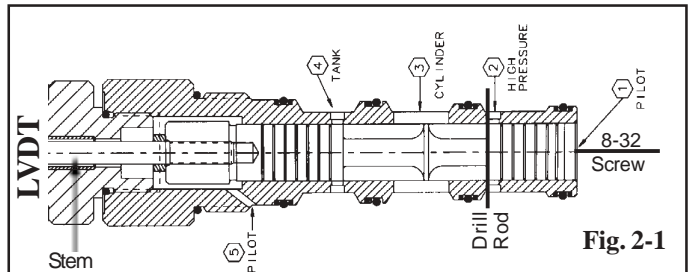

Fig. 2-1
1. Insert 8-32 x 1.5 machine screw into end of valve spool, opposite LVDT housing. Fig. 2-1, 2-2.
2. Push valve spool against drill rod and hold in place. Record LVDT DC output voltage at amplifier test point. Ref. Fig. 2-1.